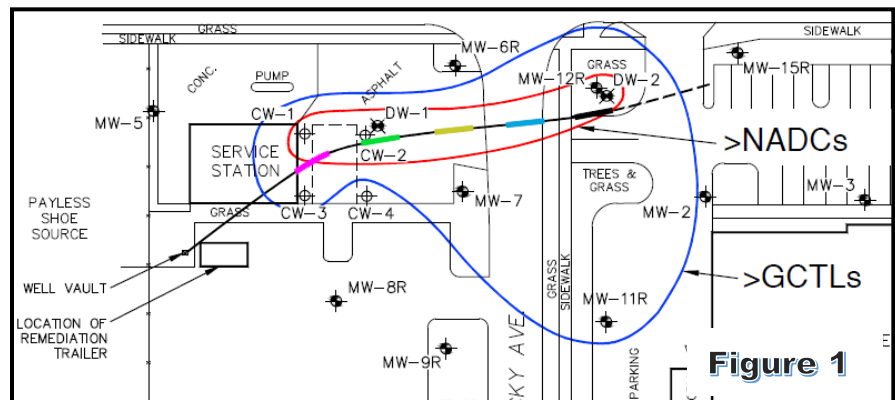

Figure 1
The design first involved the installation of one Vertebrae™ well system for pilot testing using air sparge (AS) to estimate the radius of influence (ROI) for full scale design (shown in Figure 1). Once completed the full-scale design would be implemented to address the plume, specifically the portion on the adjacent business property. Off-site access was extremely limited thus drilling and installation from on-site was crucial.